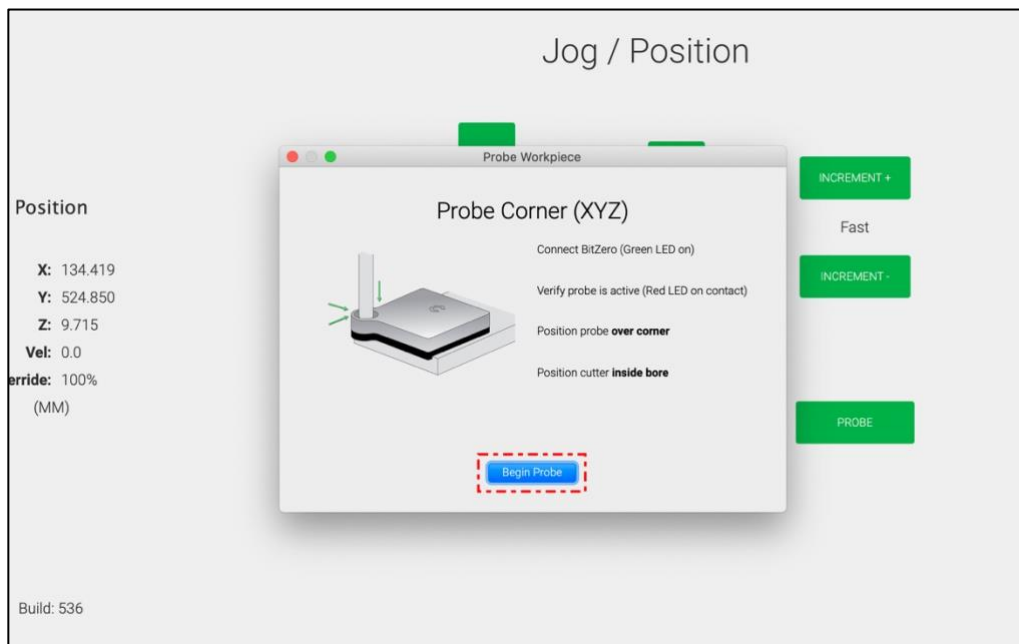

Figure 9
**NOTE:** Make sure your setup matches the graphic shown onscreen for the probe cycle you have selected. See *Fig. 9*. If your setup does not match, the calculated zero location will be incorrect.
12. Click the **Begin Probe** button to run the probing sequence and set zero for X, Y, and Z. See *Fig. 9*.